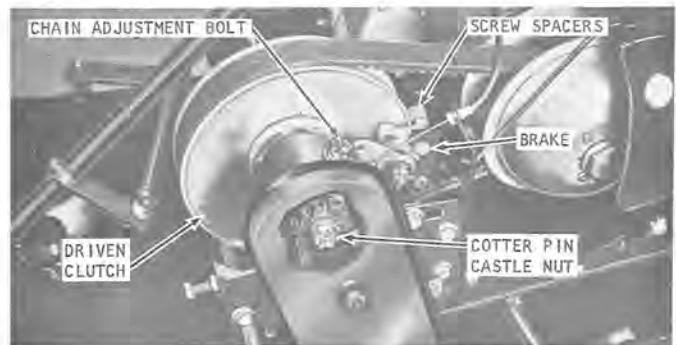

Figure 7
4. Remove the chain (figure 7).